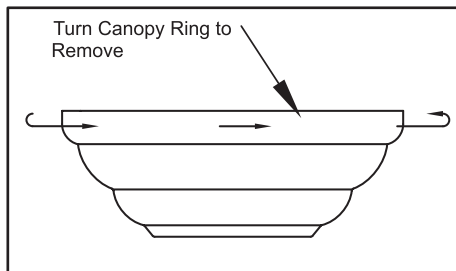

Figure 5
1. Remove the canopy ring from the canopy by turning the ring to the right until it unlocks (Figure 5).